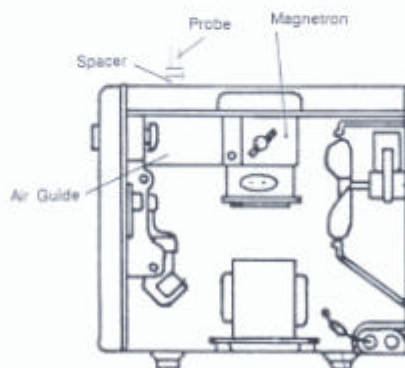

Fig. 12.2
- Set oven timer and with the magnetron oscillating, measure around the magnetron and the air guide. (Fig. 12.2) Reading should not exceed 5 mW/cm^2 .